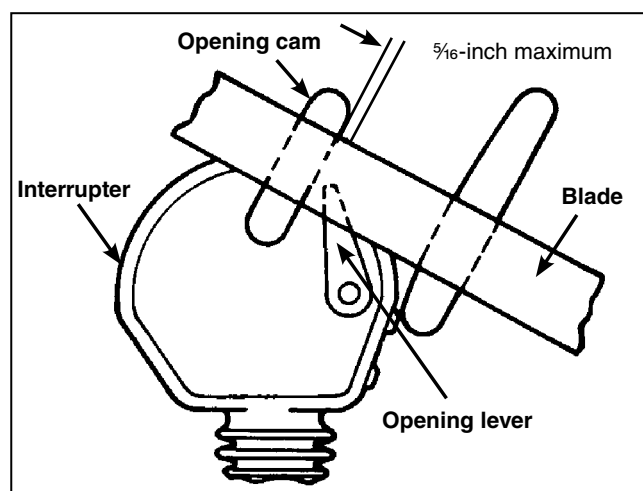

Figure 19. Blade assembly moving in the closing direction.
- As the blade moves in the closing direction, clearance between the blade-opening cam and the interrupter-opening lever must be within the limit shown. See Figure 19 on page 17.